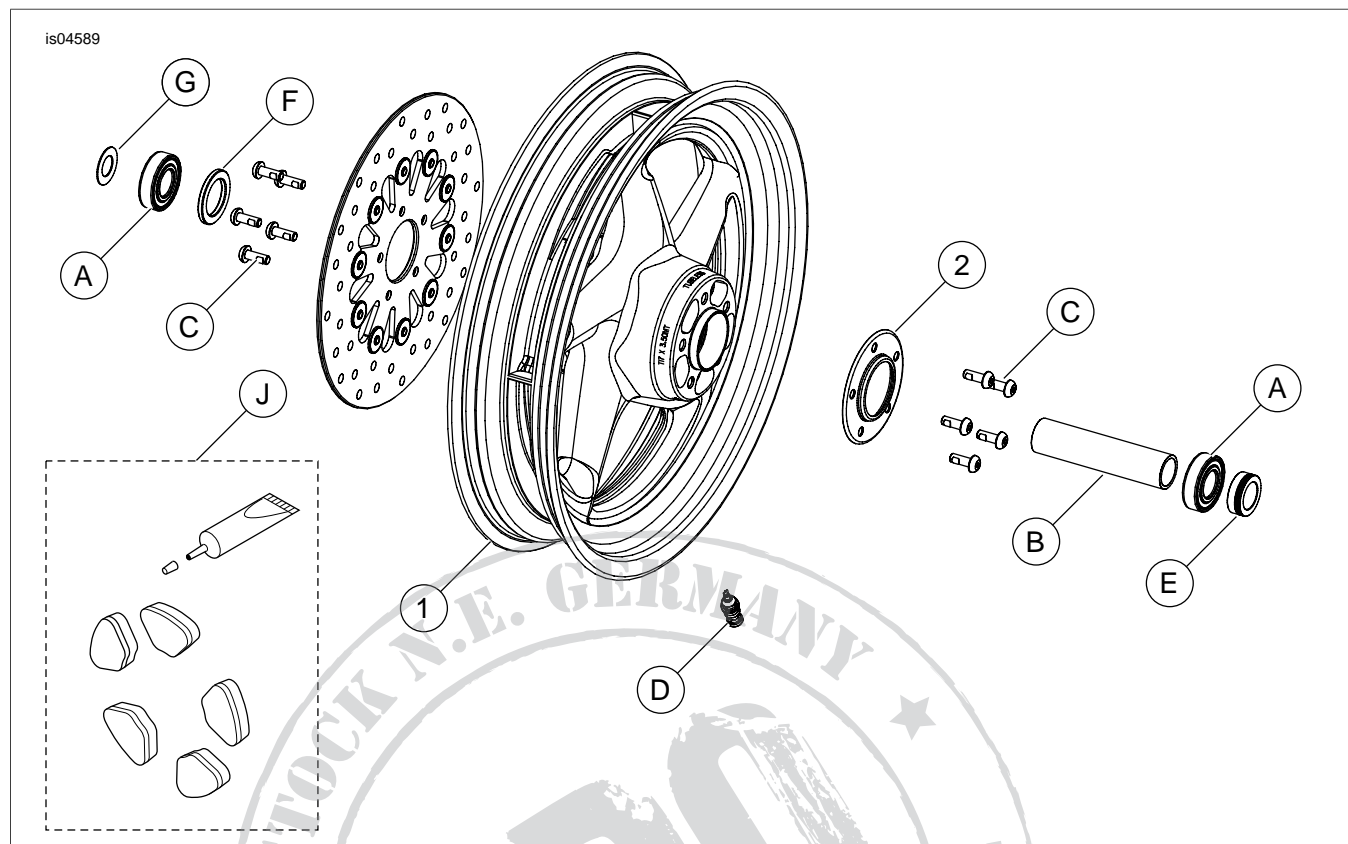

Figure 1. Front Reaper Wheel (21-inch wheel shown)
2. See Figure 1. Install valve stem assembly (D) on wheel. Refer to TIRES in service manual.